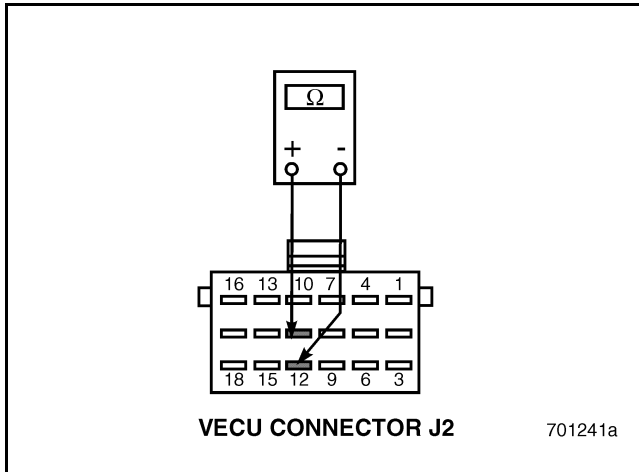

Figure 440
5. Check for continuity between VECU connector J2 pins 11 and 12 (see Figure 440).